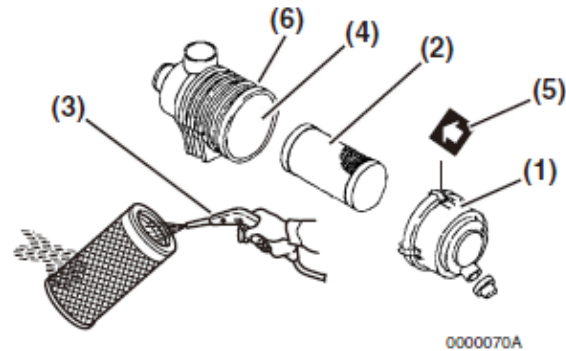
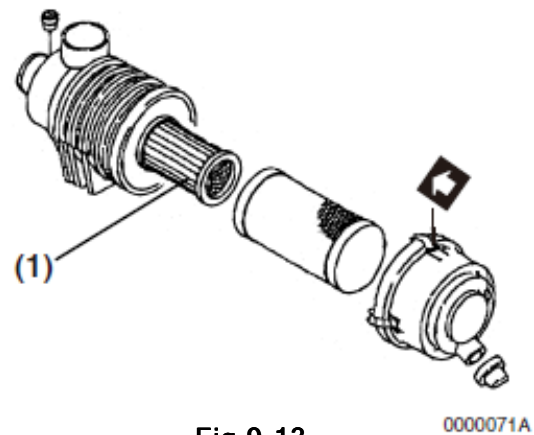

Fig.9-12
Fig.9-13
Note that a typical air cleaner is shown in **Fig.9-12** and **Fig.9-13** for illustrative purposes only.
1. Unlatch and remove the air cleaner cover (**Fig.9-12, (1)**).
2. Remove the element (**Fig.9-12, (2)**) (outer element if equipped with two elements).
3. Blow air (**Fig.9-12, (3)**) through the element from the inside out using 42-71 psi (0.29-0.49 MPa, 3.0-5.0 kgf/cm²) compressed air to remove the particulates. Use the lowest possible air pressure to remove the dust without damaging the element.
4. If the air cleaner is equipped with a double element, only remove and replace the inner element (**Fig.9-13, (1)**) if the engine lacks power or the dust indicator actuates (if equipped).
7. Reinstall the element into the air cleaner case (**Fig.9-12, (4)**).
8. Reinstall the air cleaner cover making sure you match the arrow (**Fig.9-12, (5)**) on the cover with the arrow on the case (**Fig.9-12, (6)**).
Replace the air cleaner element (**Fig.9-12, (2)**) every 500 hours even if it is not damaged or dirty.
When replacing the element, clean the inside of the air cleaner case (**Fig.9-12, (4)**).
If the air cleaner is equipped with a double element, only remove and replace the inner element (**Fig.9-13, (1)**) if the engine lacks power or the dust indicator actuates (if equipped).